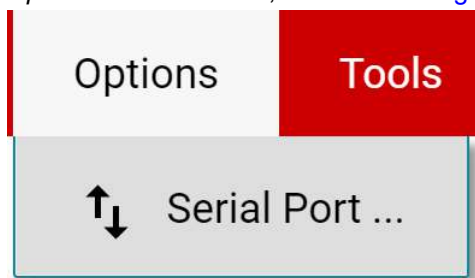

Figure 4-8. Change Serial Port
- b. If **Hardware Connected** and **DEVICE CONNECTED** do not show in the GUI, check the different hardware COM ports under *Options >> Serial Port*, as shown in Figure 4-8.